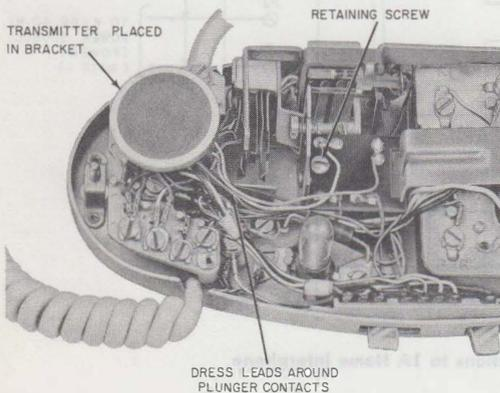

Fig. 3—664A Transmitter, Installed
- (2) Remove transmitter and component board (Fig. 3).